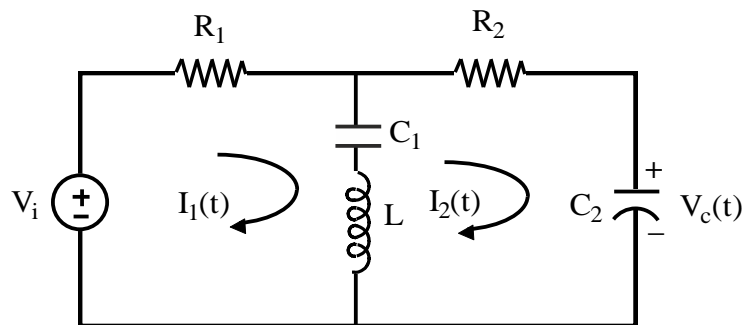

Fig. 2 - a
2. a) Determine Transfer function of an electrical network shown in fig. 2-a. 7
- b) Determine transfer function of Rotational Geared mechanical system shown in fig. 2 – b